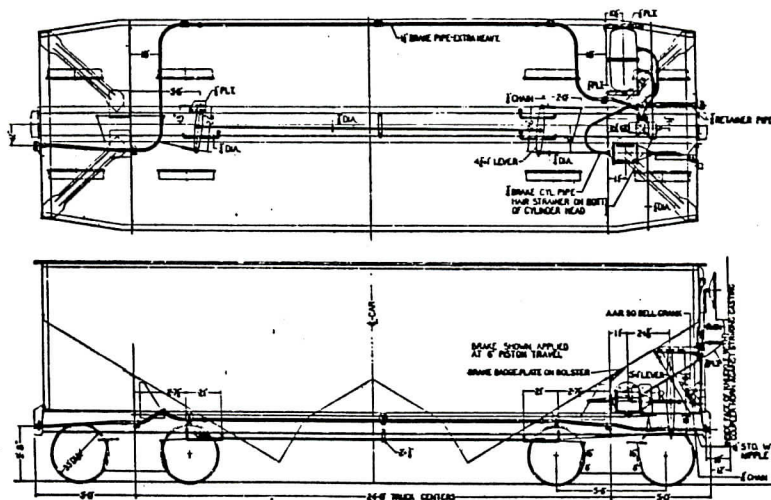
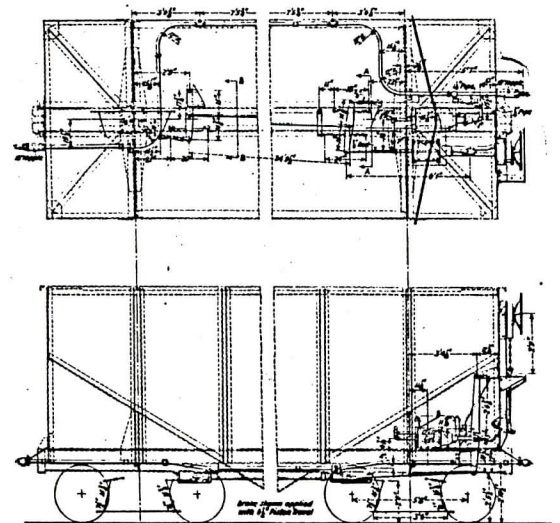

fig. 3
fig. 4
D. Brake Detail--If you want to add extra brake detail, you can now drill in the centersill for the main brake pipe (see fig. 3). Use a #65 drill (0.035) for this. Spot this hole 3/8" from the kingpin (where the truck screw goes) on the A end of the car (non-brake cylinder end). Using the same drill, make the holes through the body bolster for the main brake pipe. If you are planning on using Tomalco glad hands, drill the hole (#76, 0.020) for the hanger in the end sill, 1/4" from the coupler centerline. I use a Northeastern eyepin soldered to the anglecock as a hanger. Drill three holes (#78, 0.016) for the main brake pipe supports along the bottom edge (brake reservoir side) of the car. I spot these holes over the center rib and the two adjoining ribs on either side of the center rib. I use the eyepins that Detail Associates makes. Remove the brake set from the sprue, file any casting marks from the castings and file the cast pipes round (edges and corners). If you would prefer to use separate brake details, Liberty Models has a nice brake cylinder and reservoir, and McKean has a H0 AB valve that is useable in S. I enlarge the hole on the coupler pad with a #52 drill (0.063) and attach the brake set. This car can be back dated by using a KD brake system (fig. 4). Now we can mount the centersill assembly to the car body. Remember to keep the brake set at the B end of the car.